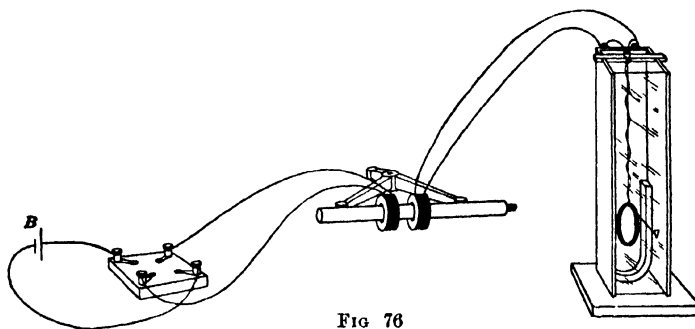

FIG 76
**II. Induction of currents by electromagnets.** (a) Slip the 700-turn coil used in I over an iron bar (for example, one of the tripod rods) and connect it through a commutator with a battery *B* of one or two dry cells, in the manner shown in Fig. 76. Place a second similar coil over this bar and connect it with the D'Arsonval galvanometer, as shown. Now *make* the circuit by inserting the upper part of the commutator, and record the effect produced upon the needle. From the direction of deflection of the pointer, find the direction in which the current flowed around the iron core in the coil attached to the galvanometer (the so-called *secondary*). Was the induced current in the same or in the opposite direction to that in which the current from the cell is circulating around the core in the *primary*? What connection do you find between this experiment and I?
(c) Push up the base of the tripod into contact with the rod (Fig. 76), so that the magnetic lines can have a return *iron* path instead of a return *air* path. Observe the amount of the deflection at make or break and compare with the amount when the tripod base is removed. (The difference will not be large, but it will be easily observable.)